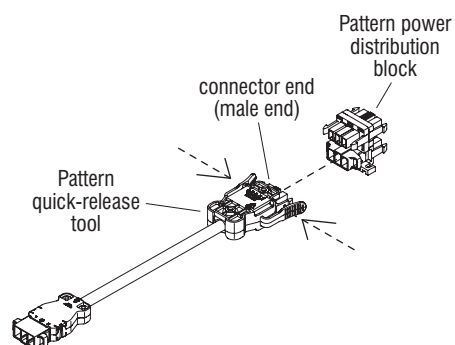

Figure 4
2. The two Pattern quick-release tool tabs will align at the bottom of the connector end prongs. Squeeze the two Pattern quick release tool tabs together to push the two Pattern power distribution block prongs together, then pull the connector end out of the distribution block. Remove the quick-release tool from the connector end (Figure 4 & Details C & D).